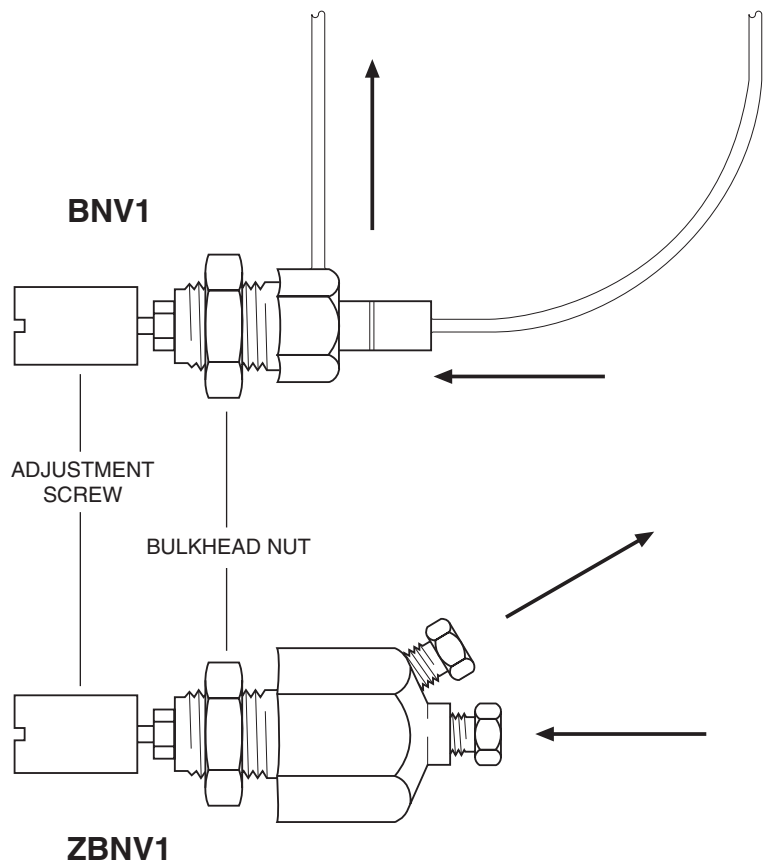

Figure 1: Direction of flow
5. Connect the tubing according to the flow direction shown in **Figure 1**.